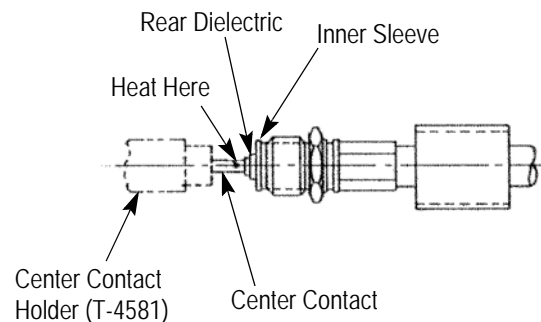

Figure 5
2.3. Soldering the Center Contact to the Cable Center Conductor (Figure 5)